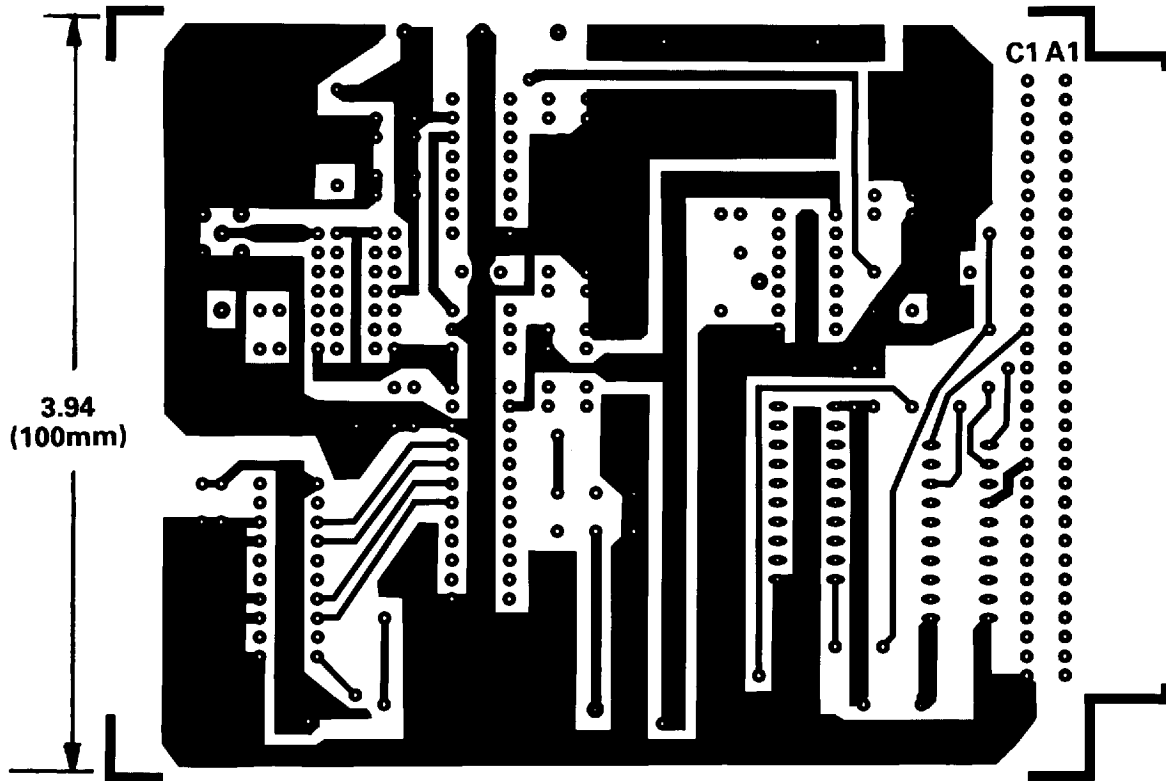

Figure 29. PCB Component Side Layout for Figure 24
circuit layout of Figures 29 and 30 have both analog and digital ground planes which are kept separated and only joined together at the AD7672 AGND pin.
1. THE CORRESPONDING PCB LAYOUT OF FIGURES 29 AND 30 CAN ACCOMMODATE EITHER THE AD585, THE AD681 OR THE AD683 SHA. (SEE FIGURES 25 AND 26.)
The PCB layout of Figures 29 and 30 can accommodate either the AD683, the AD681 or the AD585 sample-and-hold amplifier. The choice of SHA depends mainly on the acquisition time required.